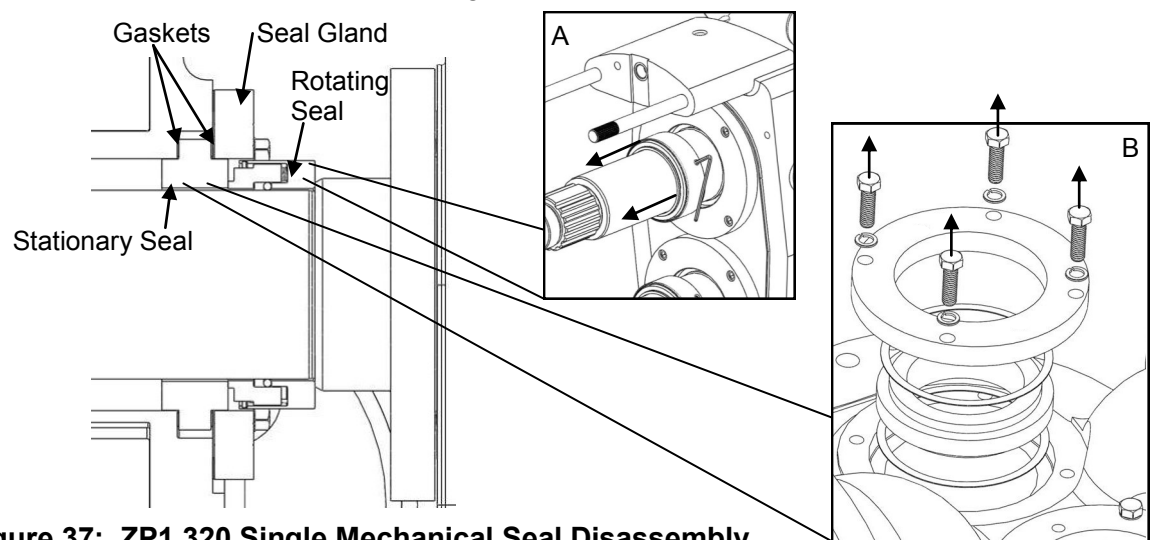

Figure 37: ZP1 320 Single Mechanical Seal Disassembly
*Disassembly:* The ZP1 320 single mechanical seal option consists of two mechanical seal sets (rotating seal and stationary seal), four gaskets, and two seal glands (Figure 37). There are also eight bolts and washers used to hold the stationary seal to the body. Remove the stationary seal from the shaft by loosening the set screws on the seal and sliding it off the shaft (Figure 37, A). Next, remove the seal gland screws and washers, and remove the seal glands from the body (Figure 37, B). Remove and inspect the stationary (and rotating) seal for chipping, scratches or any other evidence of cracks on the seal face. If the stationary seal is worn, turn over and if there is no damage use this side.